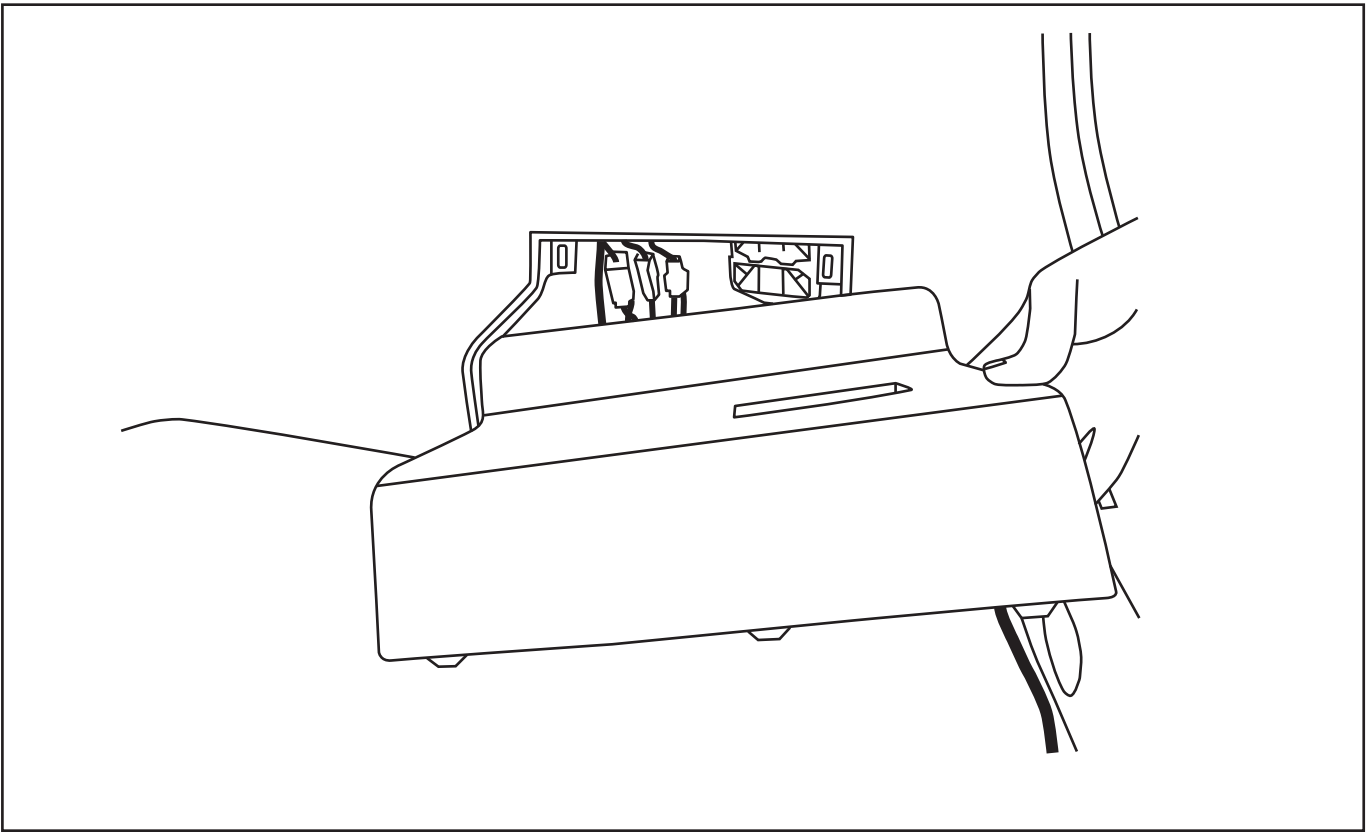

Fig. 8
10. Remove plastic jack-cover panel (Fig. 8).